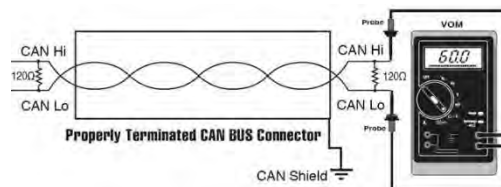

Figure 139. Bus Termination Test Setup
- C. Measure resistance between CAN H and CAN L. See Figure 139.